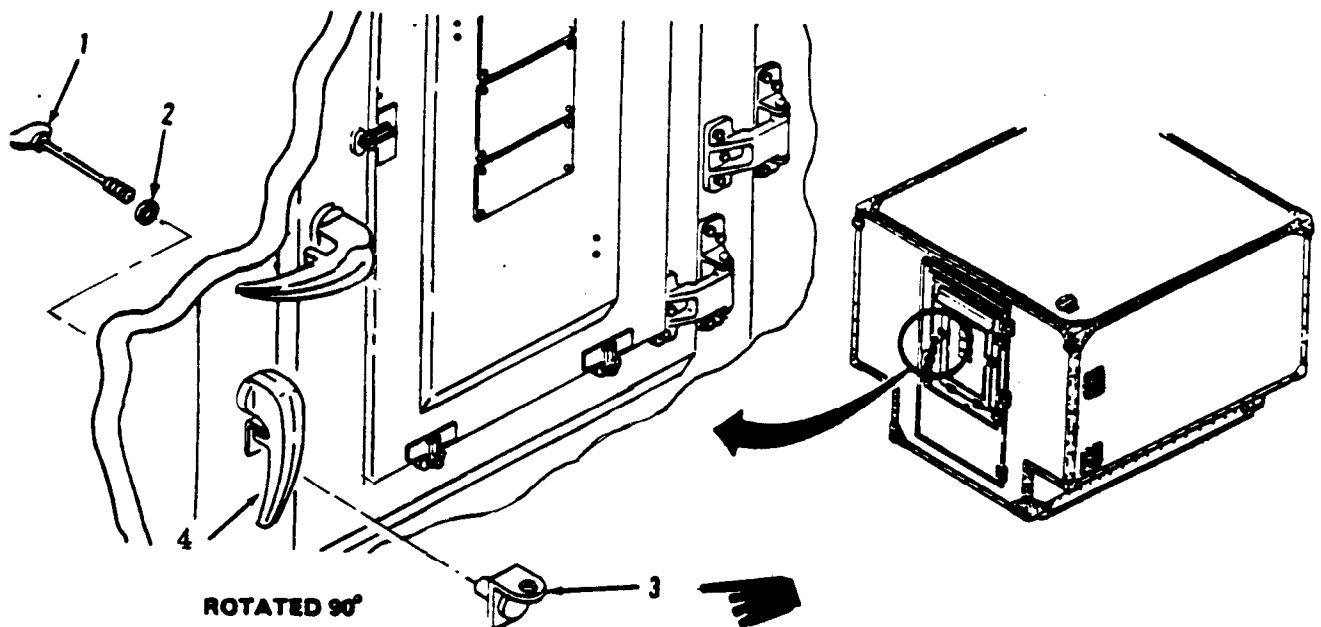

Figure 3-24. Door Hasp Replacement.
**Replace** (Figure 3-24)
- (1) Remove thumb screw (1) and crimp mesh washer (2) from inside of outer door.
- (2) Take hasp (3) off outer door.
- (3) Apply conductive compound on mounting surface of hasp (3).
- (4) Position hasp (3) on outside of outer door under handle (4).
- (5) Install thumb screw (1) with crimp mesh washer (2).
- (6) Apply a continuous bead of sealer around edge of hasp (3).